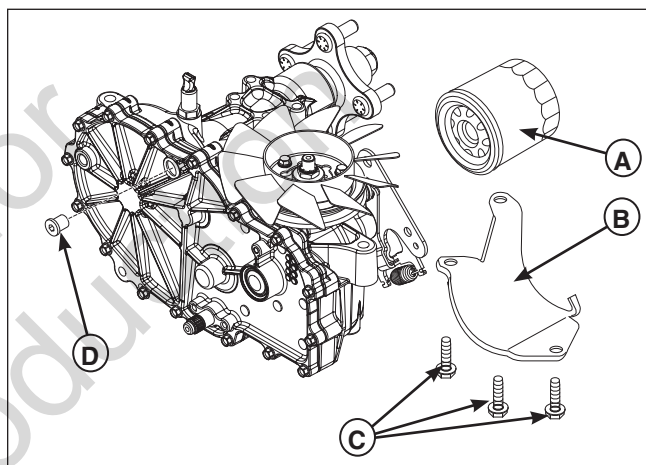

**Figure 27. Transmission Oil Reservoirs**
1. Check the oil level when the unit is cold. Raise the seat plate to gain access to the transmission oil reservoirs (A, Figure 27). The oil should be up to the "FULL COLD" mark (B). If the oil is below this level, proceed to step 2.
3. Add oil up to the "FULL COLD" mark (B, Figure 27).